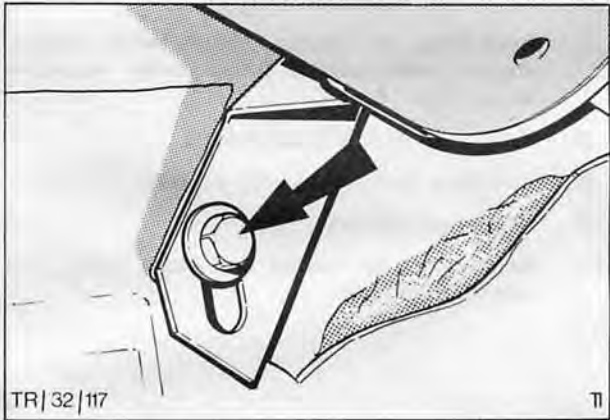

Fig. 17. Motor securing screw
12. Remove motor securing screw, Fig. 17 and lower linkage and motor until pivot shafts are clear of the cowl panel.